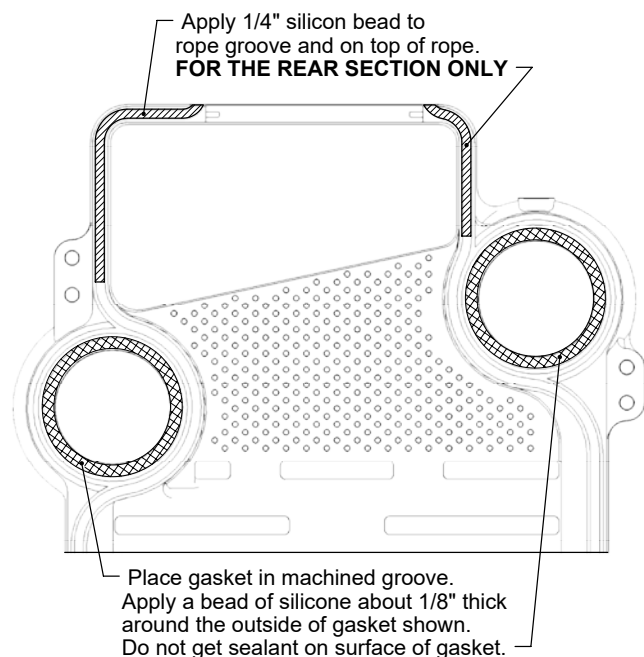

Figure 2.3: Apply Silicone Sealant
7. Apply rope adhesive or spray adhesive in the rope groove around the perimeter of the section. Variation in cast iron sections can cause areas of the rope seal to be under more or less compression. In areas where the rope is less compressed, use silicon sealant (provided) to seal those areas. Silicon sealant should be applied to the rope groove of the rear section in the area above the top nipple ports to aid in sealing the flue box as shown in Figure 2.3.
9. Apply a bead of silicone sealant around each flow port as shown in Figure 2.3. Do not get sealant on the flow port gaskets.
- 13a. Silicon sealant should be applied to the rope groove of the rear section in the area above the top nipple ports to aid in sealing the flue box as shown in Figure 2.3.